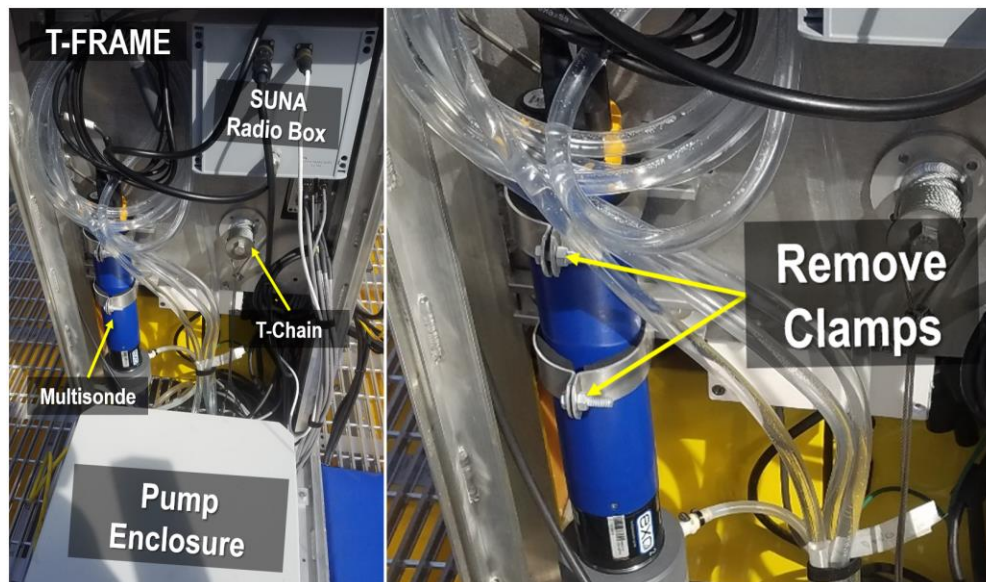

Figure 55. Use Wrench to Remove the Multisonde from the Two Clamps
4. Use a wrench to remove the Multisonde from the two clamps (Figure 55).